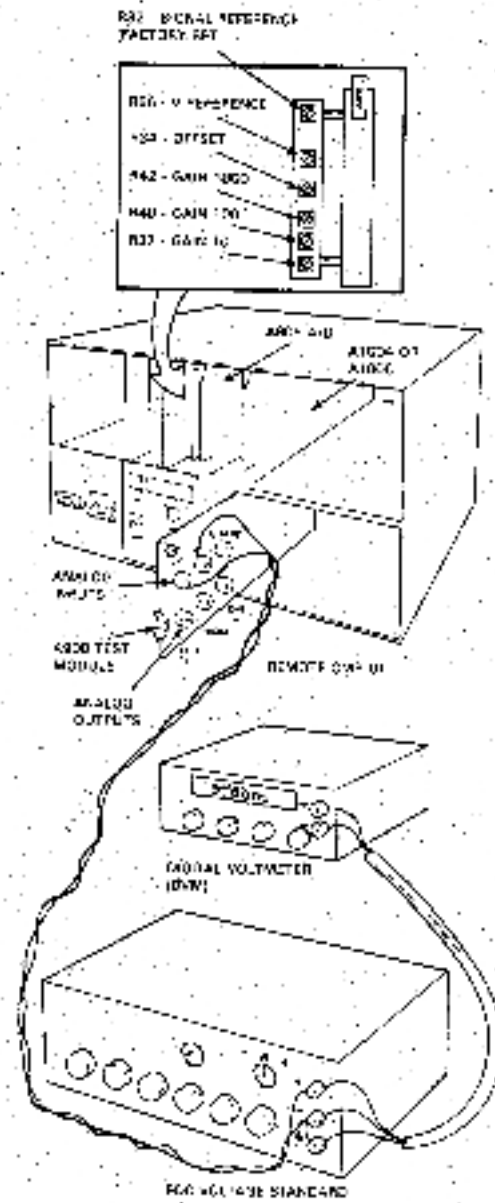

Figure 3-14 A805 Test Configuration
- See Figure 3-14.
See Figure 3-14.